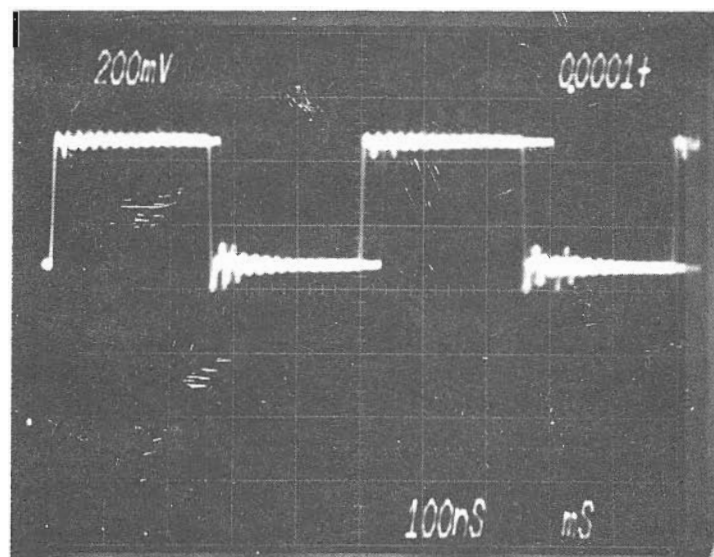

FIGURE 3 INCORRECT VCO OUTPUT
15. Observe the VCO output signal displayed on the oscilloscope. When the VCO is adjusted properly, the displayed waveform will be stable with no shifting or jittery edges (ref: FIGURE 3).